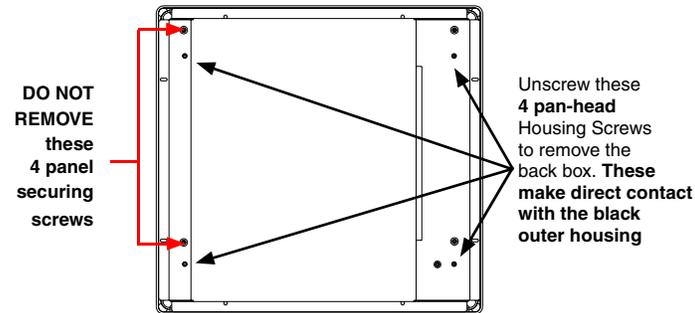

FIG. 3 Location of the securing screws on an NXD panel
4. Remove the I/O connector plate by using a grounded Phillips-head screwdriver to remove the two screws and slide the I/O connector plate away from the back box housing (FIG. 3).
5. Unscrew the four pan-head Housing Screws from the rear of the NXD unit (FIG. 3) and gently remove the outer housing. These screws secure the back box to the internal panel casing.